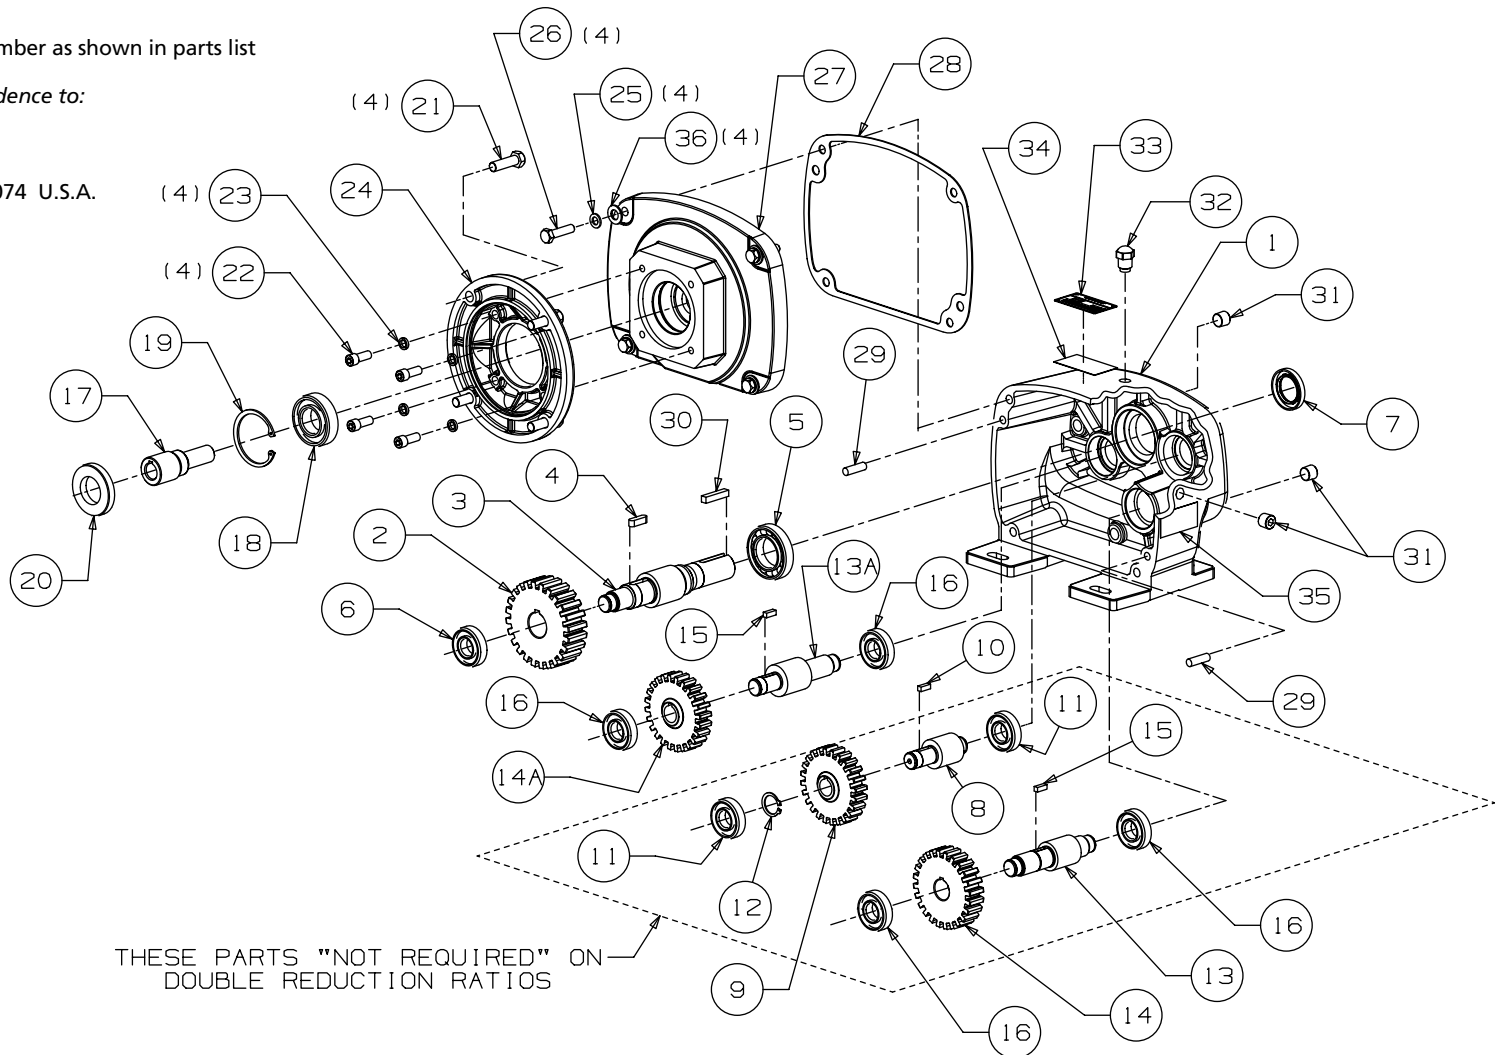

Figure 5 - Repair Parts Illustration
3. For shipment, 4 pipe plugs (Ref. Figure 5 No. 31) are installed in the unit, and a vent plug (Ref. Figure 5 No. 32) is packed separately. After mounting unit in position as instructed in Step 2, remove pipe plug located in highest position and install vent plug in its place. Check for correct oil level which is just below the mid level pipe plug (See Figure 3) The unit was filled at the factory to the floor mounted oil level.